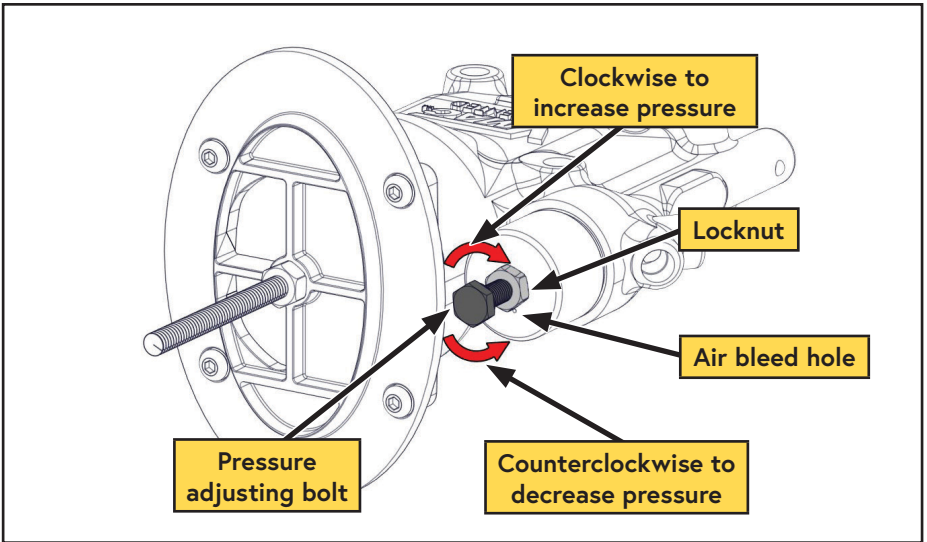

Figure 49 — Adjusting the inlet pressure regulator
- ❑ Loosen the locknut on the regulator (Figure 49).
- ❑ Rotate the pressure adjusting bolt as required to set the regulated pressure to 140 psi. (Figure 49).